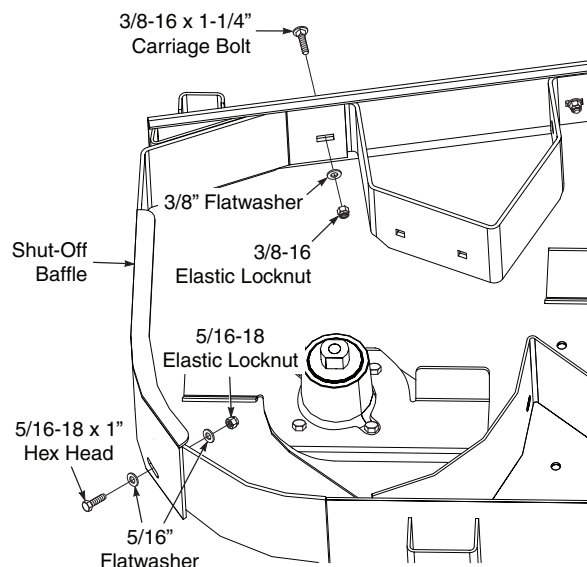

Figure 5. Discharge Shut-Off Baffle Installation
9. Install the Discharge Shut-Off Baffle to the cutter deck and secure using the hardware provided as shown in Figure 5. Do not tighten the hardware at this time.